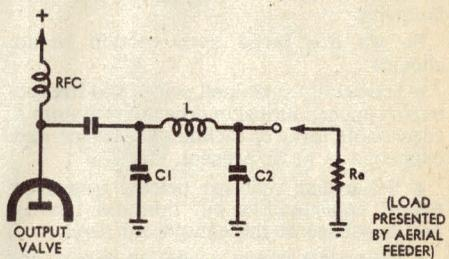

Figure 1: The basic pi-coupler circuit configuration.
In view of the widespread use of the pi-coupler, it is surely disappointing that the established radio textbooks and amateur radio reference manuals generally devote very little space to a discussion of its basic operation. Most simply give its basic circuit configuration, as in figure 1, together with a few basic formulae describing its properties. Small wonder that to many radio amateurs and technicians its operation is still something of a mystery!
To begin, then. As figure 1 shows, the basic pi-coupler consists of a series inductor L , together with two shunt capacitors C_1 and C_2 . Usually both C_1 and C_2 are made variable, as shown. The load resistance R_a presented by the aerial feeder cable is connected to the network across C_2 , while the plate or collector of the PA stage connects across C_1 via a high-value DC blocking capacitor. An RF choke is used for the PA stage DC return.
It is possible to simplify the circuit of figure 1 by reducing it to the bare essentials as far as its RF operation is concerned. This is shown in figure 2(a), which also represents the way that
Although these design calculations will give specific values for L , C_1 and C_2 , it should be remembered that one rarely has a very precise knowledge of the optimum PA stage load resistance R_p . This combined with the various simplifying assumptions used to arrive at equations (7) and (9) means that it is usually desirable to use variable capacitors for both C_1 and C_2 , as shown in figure 1.